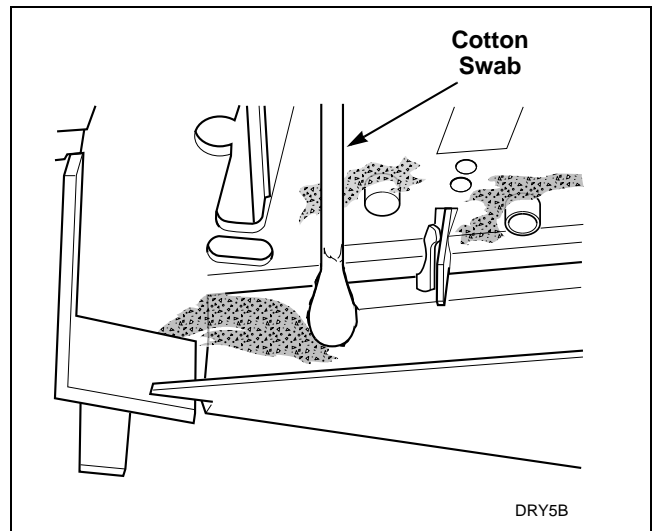

Figure 51
- Check coin path in coin drop for lint and residue. If lint or light residues are present, use a cotton swab to remove. If heavy residue is present, it may be necessary to first scrape off excessive residue and then use a cotton swab dipped in water or isopropyl alcohol (rubbing alcohol) to remove remainder of residue. Refer to *Figure 51*.